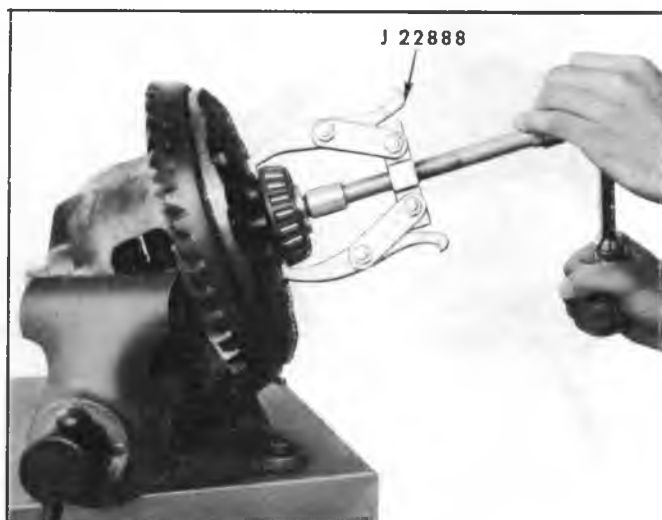

Fig. 2B-Differential Bearing Removal
2. Tighten puller screw to remove bearing. See Figure 2B.